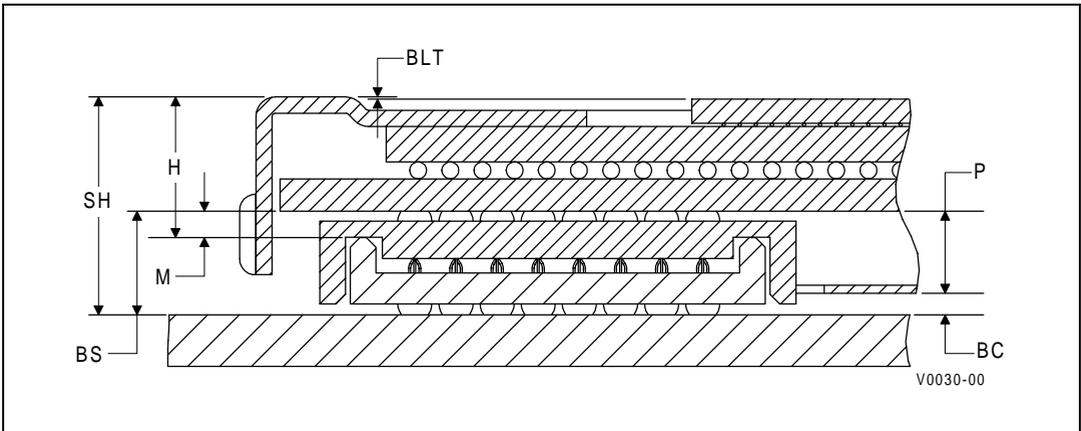

Figure 5.6 Mini-cartridge Cross Section with Vertical Dimensions
1. For parameter definitions and illustration, see Table 5.3 and Figure 5.6.
2. Processor height, plug height, bottom cover height and bond-line thickness are the only monitored vertical dimensions. The other dimensions in Table 5.3 and Figure 5.6 are dependent on the receptacle height. Refer to the *Mobile Pentium® II Mini-cartridge Processor Mechanical and Thermal User Guide* for information on the effect of receptacle mounting technique on these other dimensions.
Table 5.3 and Table 5.3 define the mini-cartridge dimensions illustrated in Figure 5.6. The assembly stack height (SH), board-to-board spacing (BS), and bottom clearance (BC) dimensions are dependent on the receptacle height. Refer to the *Mobile*